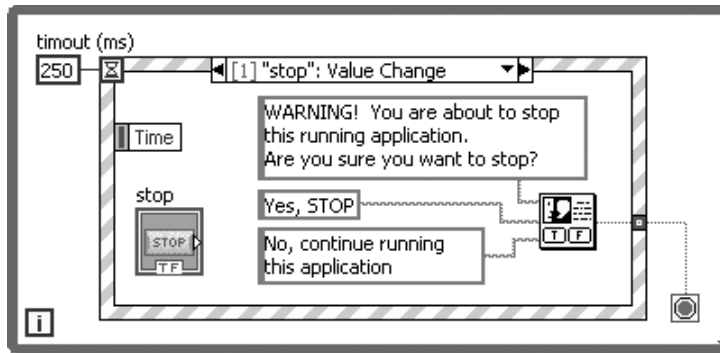

Figure 13.57
5. You’ve just created your “stop”:Value Change event. Normally you’d just wire a Boolean to stop the VI here. But rather than exiting the VI directly if this happens, use a dialog to verify that the user really wants to stop. Give her the option of continuing on or really stopping. Can you do this without looking at Figure 13.57? Give it a try!